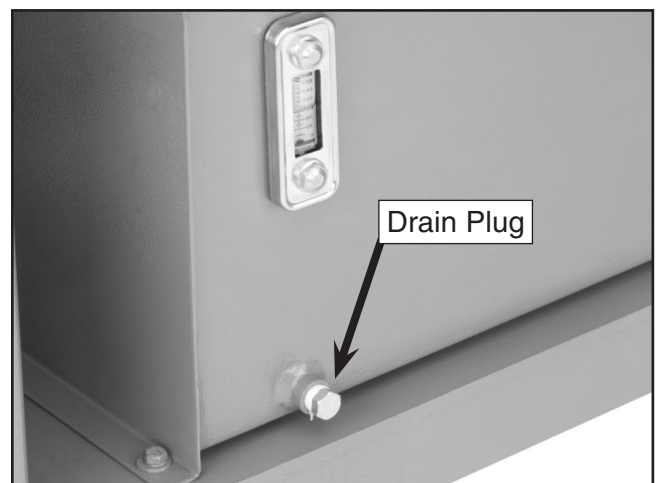

Figure 50. Hydraulic tank drain plug.
2. With your drain pan in place, remove the drain plug shown in **Figure 50** and allow the tank to completely drain.